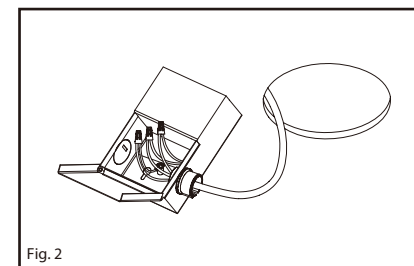

Fig. 2
2. Open the cover of the junction box. Push and remove one of the knockouts on the side panel of the junction box. Install the supply wire strain relief (not included). (Fig. 2)
3. Bring supply power into junction box through the strain relief knockout. Use the wirenuts to connect the white wire from the supply wire with the white wire of the junction box. Match the black wire from the supply wire with the black wire of the junction box. Match the copper wire from the supply wire and with the green wire of the junction box. (Fig. 2)
4. Put all wires and connections back into the junction box and close the cover securely. (Fig. 2)